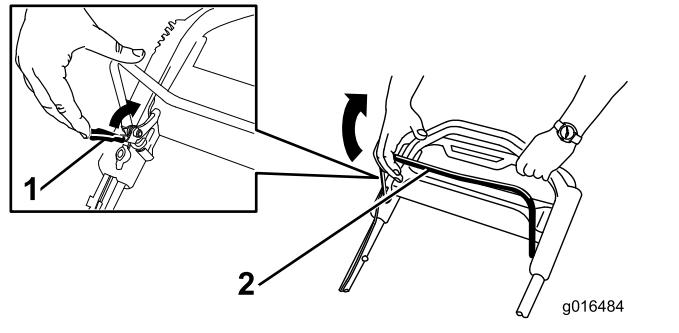

Figure 22
1. Pull the blade-control-bar lock back to the blade-control bar (Figure 22).
2. Slowly pull the blade-control bar back to the handle (Figure 22).